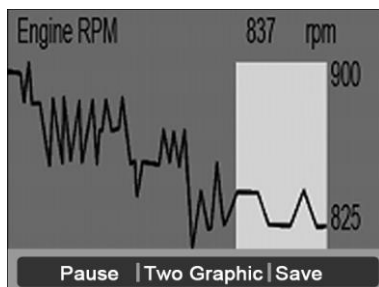

Figure 5.29
- 3) Press the Function button corresponding to **One Graphic**. The screen will show the live data waveform as Figure 5.29.